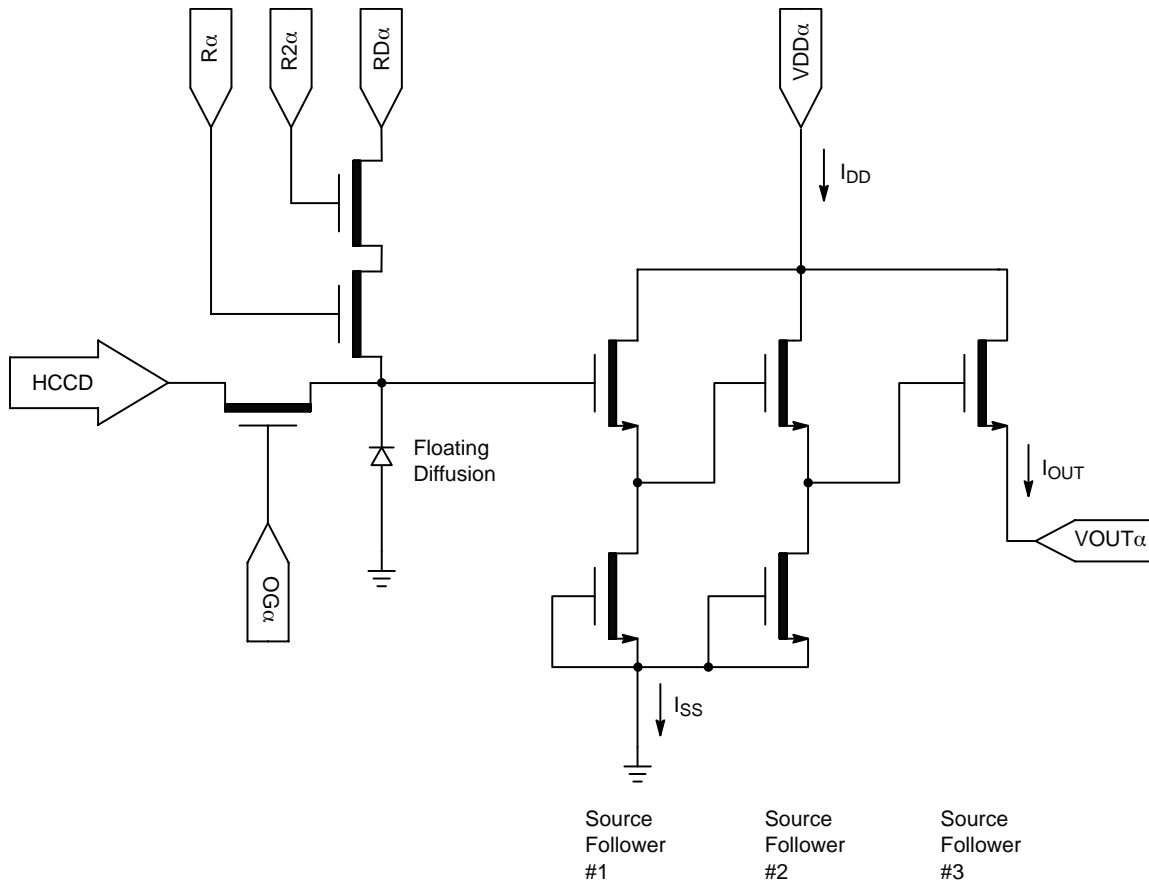

Figure 27. Output Amplifier
2. The maximum DC current is for one output.  $I_{DD} = I_{OUT} + I_{SS}$ . See Figure 27.